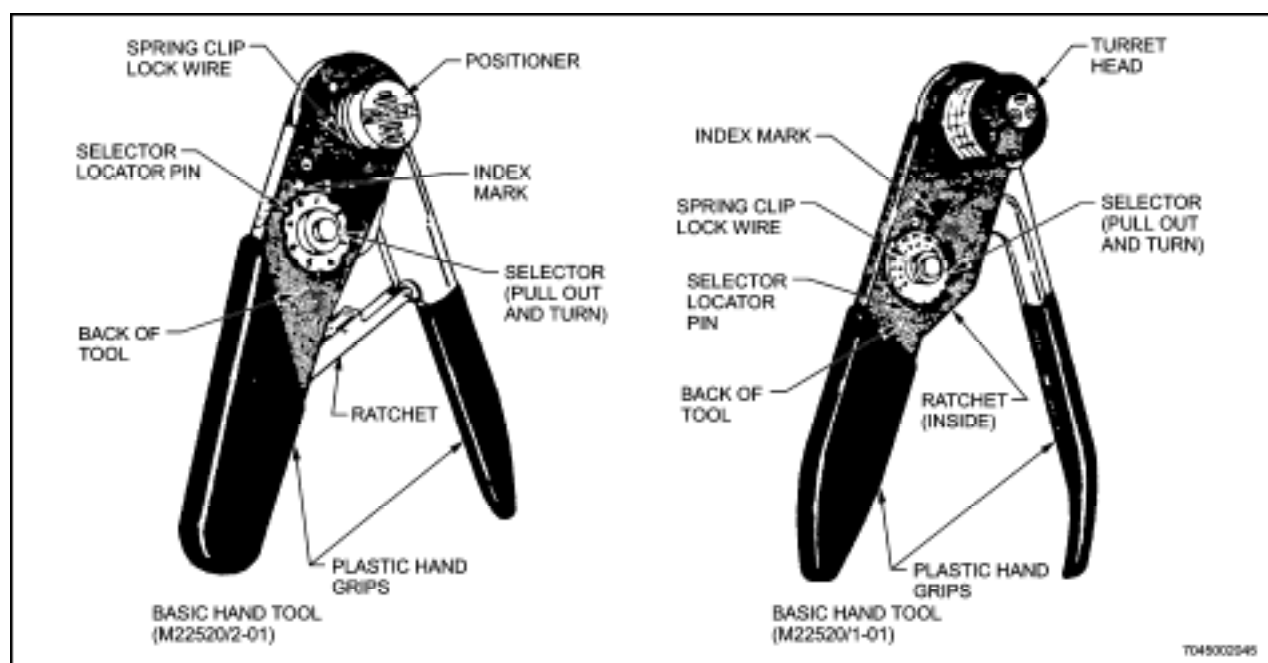

Figure 10-17 M22520 Crimping Tools
- f. Refer again to the data plate for the correct selector setting for the wire size being used. With the handles fully open, remove spring clip lock wire from selector knob, lift and rotate the selector knob (or slide the thumb button) to the correct setting and release (see Figure 10-17) and reinstall spring clip lock wire.